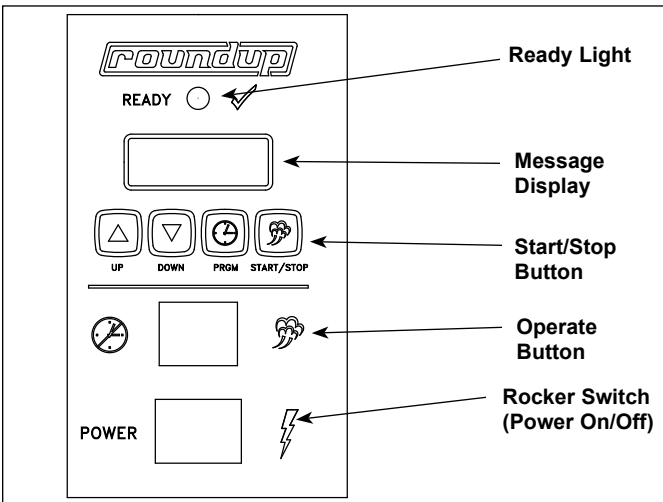

Figure 5a. Operating Controls (all units EXCEPT MS-150/250 Mfg. #9100424, 9100432, 9100433, & 9100439)
When the Operate button (Figure 5a) is pressed, power is supplied to the water pump (MS-150/155/355) or the solenoid valve (MS-250/255). The pump/solenoid operates and water sprays onto the heated Steam Generator. The water flashes immediately into live steam and shoots down onto the product.
1. Turn the Rocker Switch (power On/Off) to ON (Figure 5a).